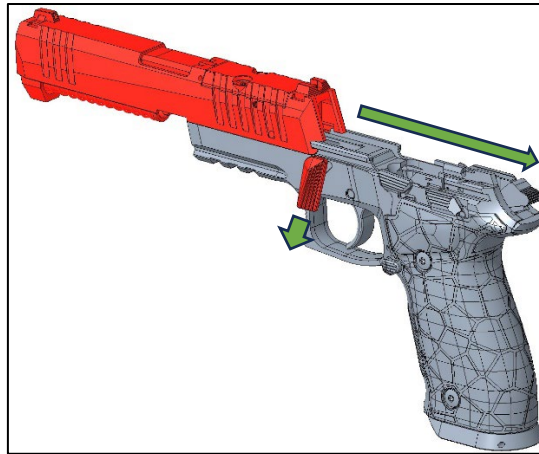

Figure 37: Mounting the slide onto the frame guides
5. Mount the slide onto the frame, ensuring that the recoil spring is centered underneath the barrel and aligning the slide grooves with the frame guides (Figure 37).